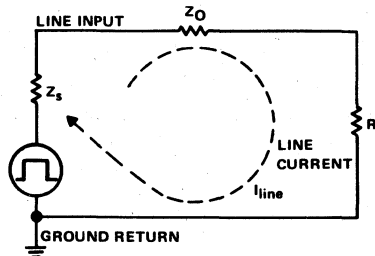

Figure 33. Diagram Representing a Gate Driving a Transmission Line
The total propagation delay is of secondary importance in generation of internal noise. The actual transition time determines the amplitude and frequency spectrum of the generated signal at the higher harmonics. Application of the Fourier integral to series 'ALS'/AS waveforms shows frequency components of significant amplitude that exceed 100 MHz. Because of the frequency spectrum generated when an 'ALS'/AS device switches, a system using these devices must consider problems caused by radio frequency (RF) even though the repetition rates may be only a few megahertz. The transient currents generated by charging capacitors, changes in the levels of dc, line driving, etc., must be considered. In Figure 33 for example, a gate driving a transmission line is represented by a voltage source  $E$ , having an output impedance  $Z_S$  connected to an impedance  $Z_0$ , and loaded with a resistance  $R_L$ .